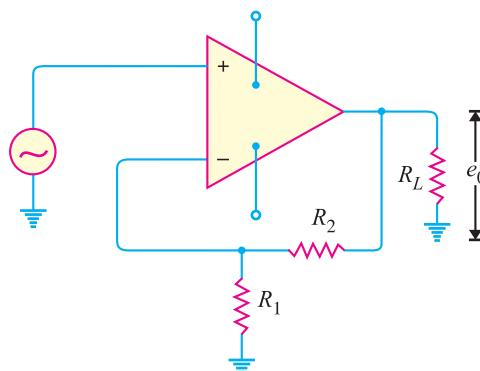

Fig. 13.30
6. Fig. 13.30 shows the negative feedback amplifier. If the gain of the amplifier without feedback is 10⁵ and $R_1 = 100\Omega$, $R_2 = 100\text{k}\Omega$, find (i) feedback fraction (ii) gain with feedback.